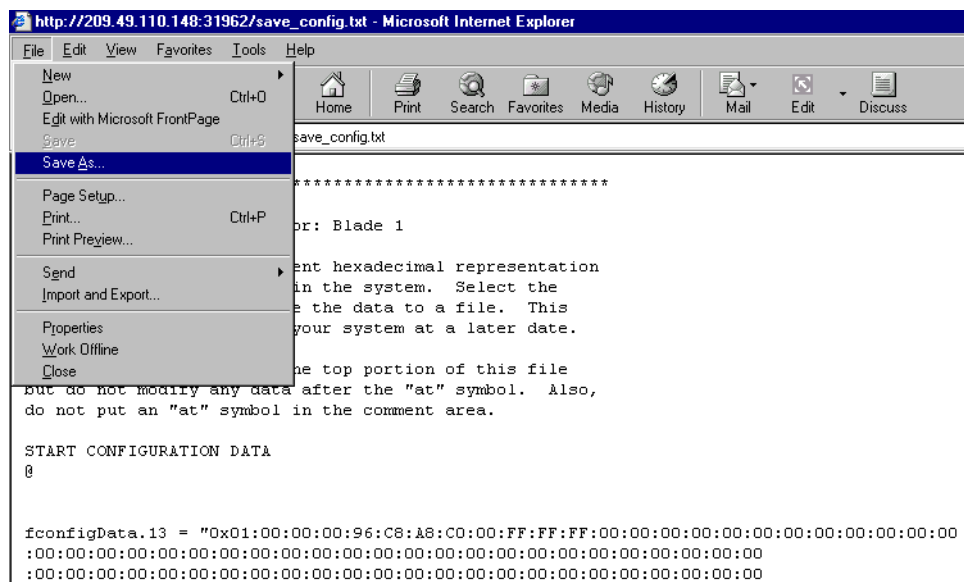

Figure 59. Saving the access server flash memory configuration data as a text file
- To save the displayed data as a text file, use your browser's **Save** function (see figure 59). Using Netscape or Internet Explorer, for example.